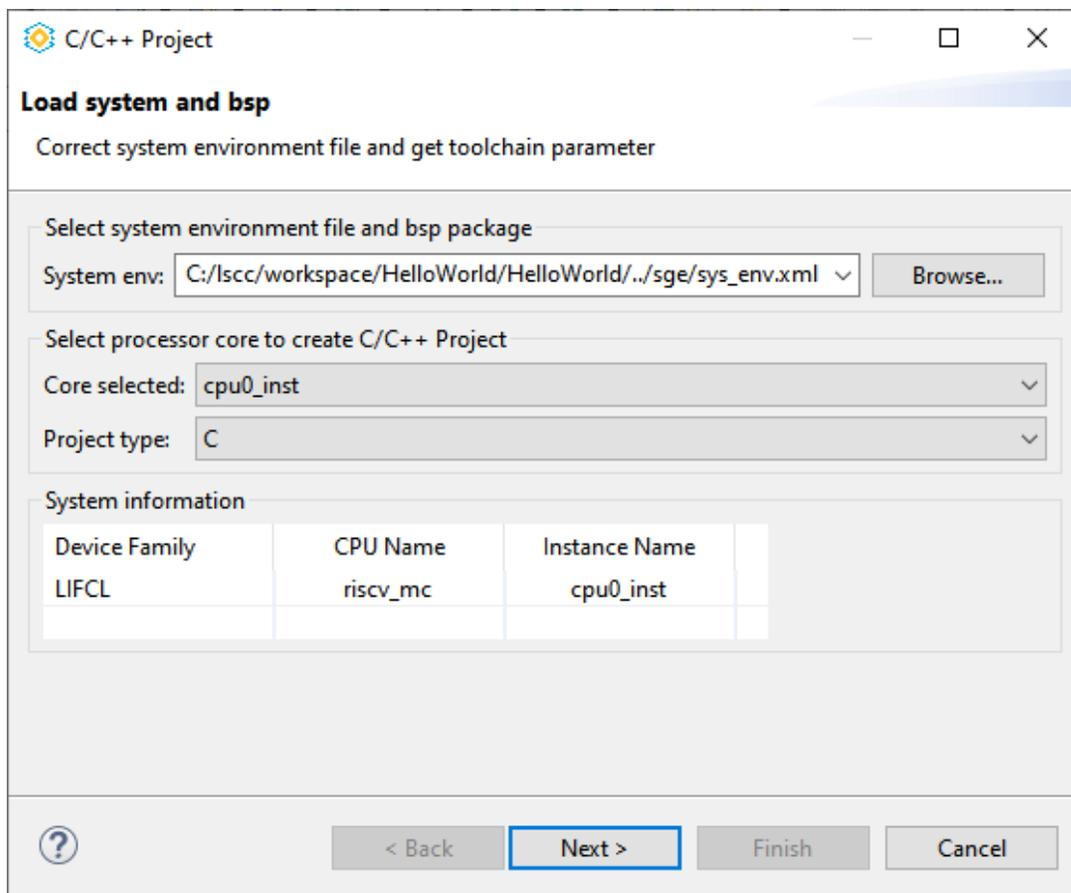

Figure 2.59. Propel SDK GUI and C/C++ Project Wizard
2. Click **Launch**. Propel SDK GUI opens and the C Project wizard (Figure 2.59) pops up for loading the system and the board support package (BSP) to create a C/C++ project.